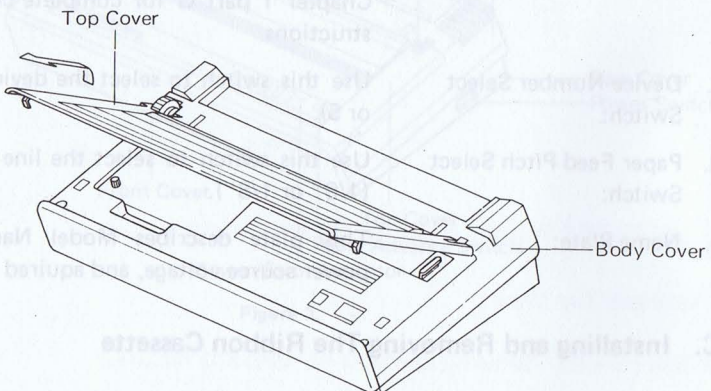

Figure 5.
- e. Turn off the power and remove the top cover. To remove it, lift up by holding both sides and pull to the direction of the arrow. (See Figure 5)